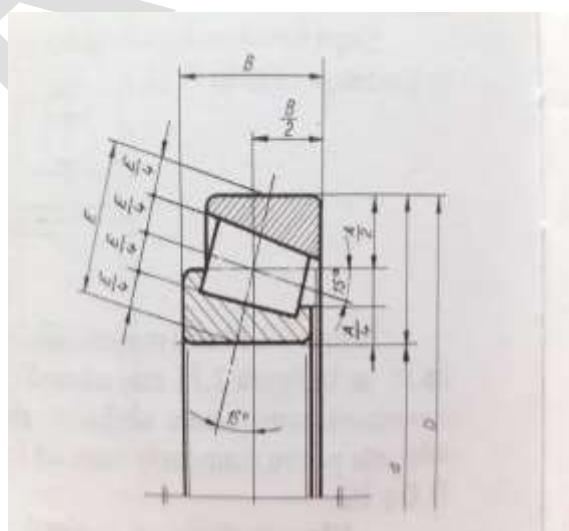

Fig. 5
- rulment axial cu role conice (fig.5);